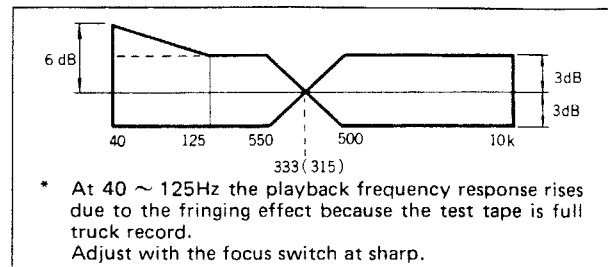

Fig. 8
**(5) Playback frequency response check** (Refer to Fig. 8)
- b. With the playback frequency response check tape, 3180 + 120μs (LH) or 3180 + 70μs (CrO2), check that the 10kHz playback level lies within 0 ± 3dB of the 315Hz playback level.